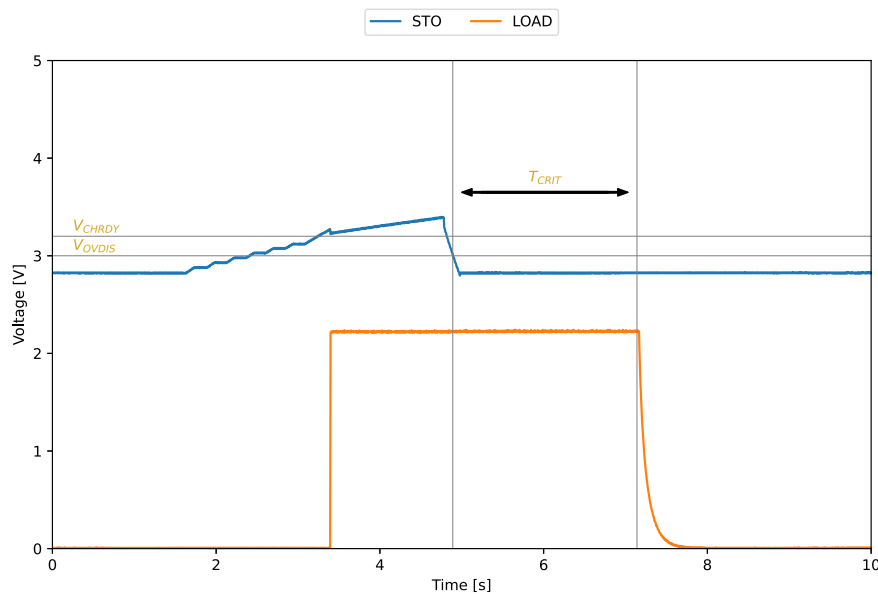

Figure 4: AEM10920 LOAD output behavior
- Disconnect the power supply from **SRC** (done at about 4.75 s on Figure 4).
NOTE: in a real application, the storage element would be a battery or a supercapacitor, with much higher stored energy, so that V_{STO} would not drop as low as on Figure 4 during T_{CRIT} .